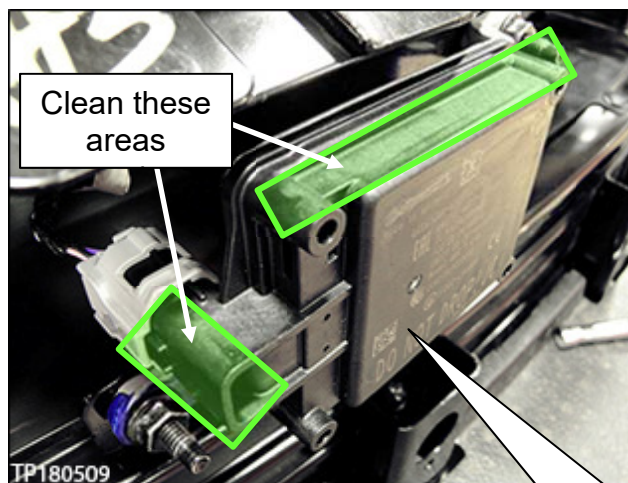

Figure 3
3. Clean the surfaces of the new Distance Sensor, shown in Figure 3.